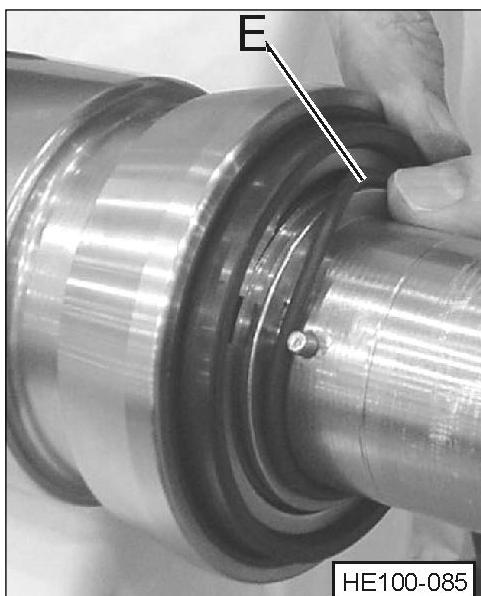

Figure 66 - Install Keeper O-ring
The seal body is held in place on the mutator shaft by two seal drive pins. Each one should be 3/32" (+/-0.015) above the stub shaft surface. It is extremely important that these pins are not rounded on the edges and that this dimension is maintained. If the pins are higher than 3/32", the seal will jam; if the pins are too low, the body will rotate. See Figure 66 on page 64.
5. Install the "keeper" O-ring (See Figure 66, Item E) on the shaft to keep the rotating parts assembled.